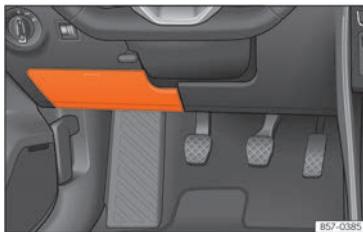

Fig. 197 On the dashboard on the driver side: lid of the fuse box.
- **Open:** fold the cover down >>> Fig. 197.